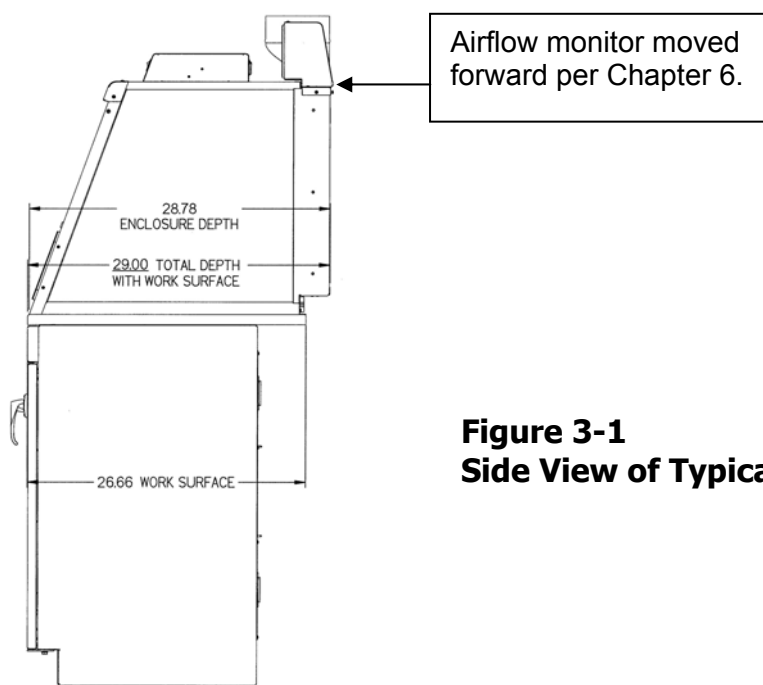

Figure 3-1
1. Level the base cabinets and the work surface. Work surface should be placed flush with the front of the base cabinet as shown in Figure 3-1.